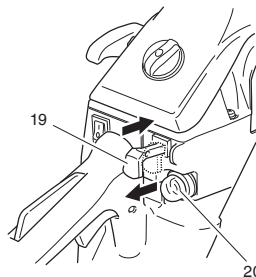

Fig. 13
*Push priming pump (20) several times so that fuel flows through bulb into carburetor. (Fig. 13)
2. Pull the choke lever (19) to choked position (Fig. 13). This will automatically lock to the half-throttle.
- When you hear first ignition, return the choke lever (19) all the way in. (Fig. 13)